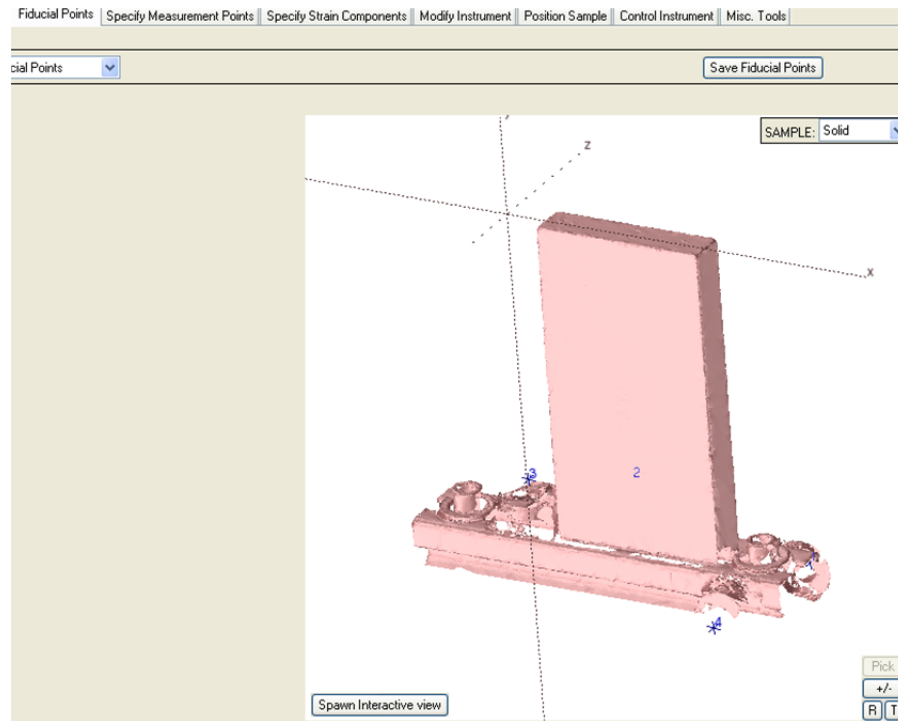

Figure B-14. Importing Fiducials
21. Next, import the fiducial points from an excel file or type them in manually (Figure B-14).